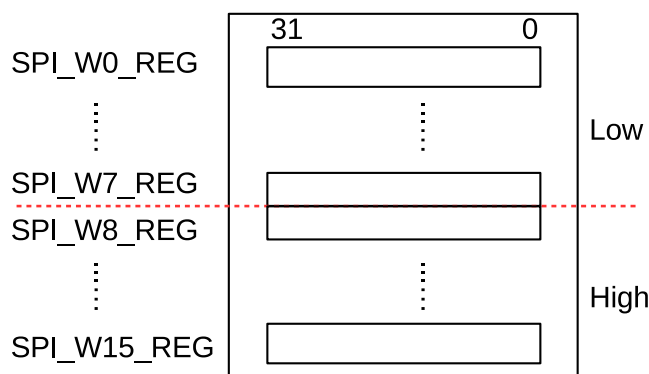

Figure 30.5-1. Data Buffer Used in CPU-Controlled Transfer
GP-SPI provides 16 x 32-bit data buffers, i.e., `SPI_W0_REG` ~ `SPI_W15_REG`, see Figure 30.5-1. CPU-controlled transfer indicates the transfer, in which the data to send is from GP-SPI data buffer and the received data is stored to GP-SPI data buffer. In such transfer, every single transaction needs to be triggered by the CPU, after its related registers are configured. For such reason, the CPU-controlled transfer is always single transfers (consisting of only one transaction). CPU-controlled transfer supports full-duplex communication and half-duplex communication.
- **SPI Buffer:** `SPI_WO_REG ~ SPI_W15_REG`, see Figure 30.5-1. The data transferred in CPU-controlled mode is prepared in this buffer.